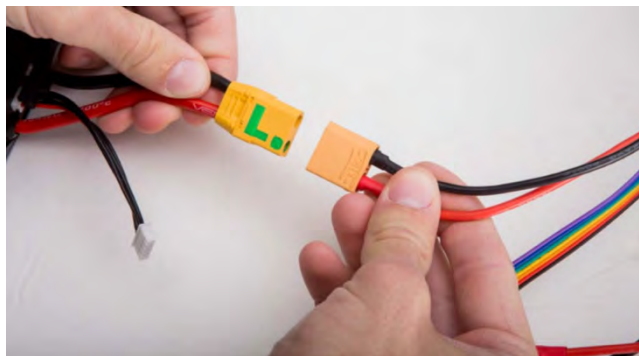

Figure 4: XT90 connection between the charger and the battery
- d. Connect the male XT90 plugs from the batteries to the charger's female XT90 leads (Figure 4).